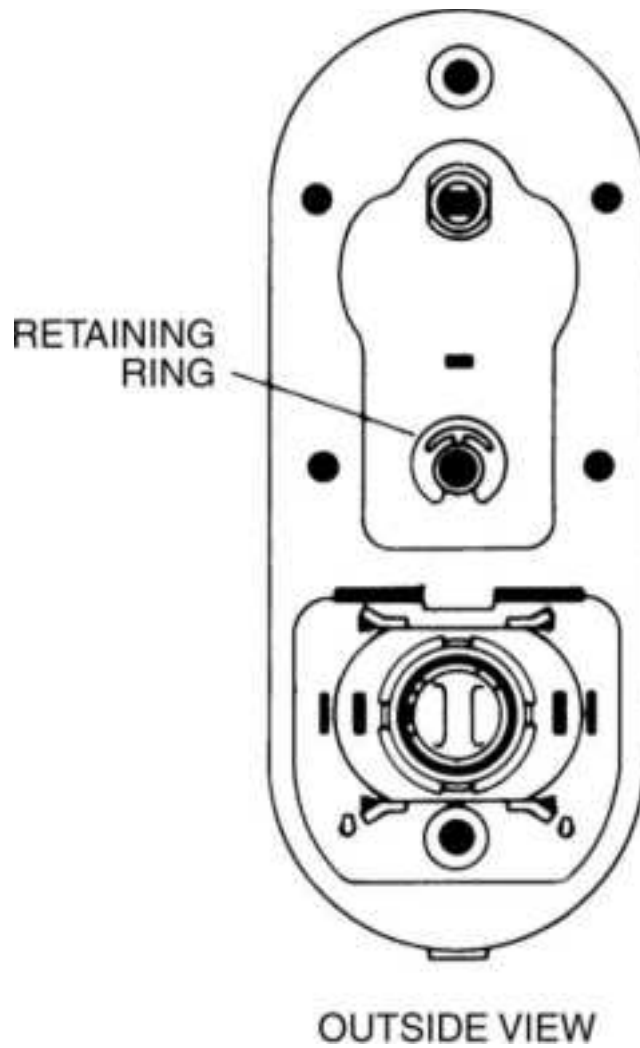

**Figure 13.103** Right-hand conversion, Step 11.
11. Install the retaining ring (Fig. 13.103 ).